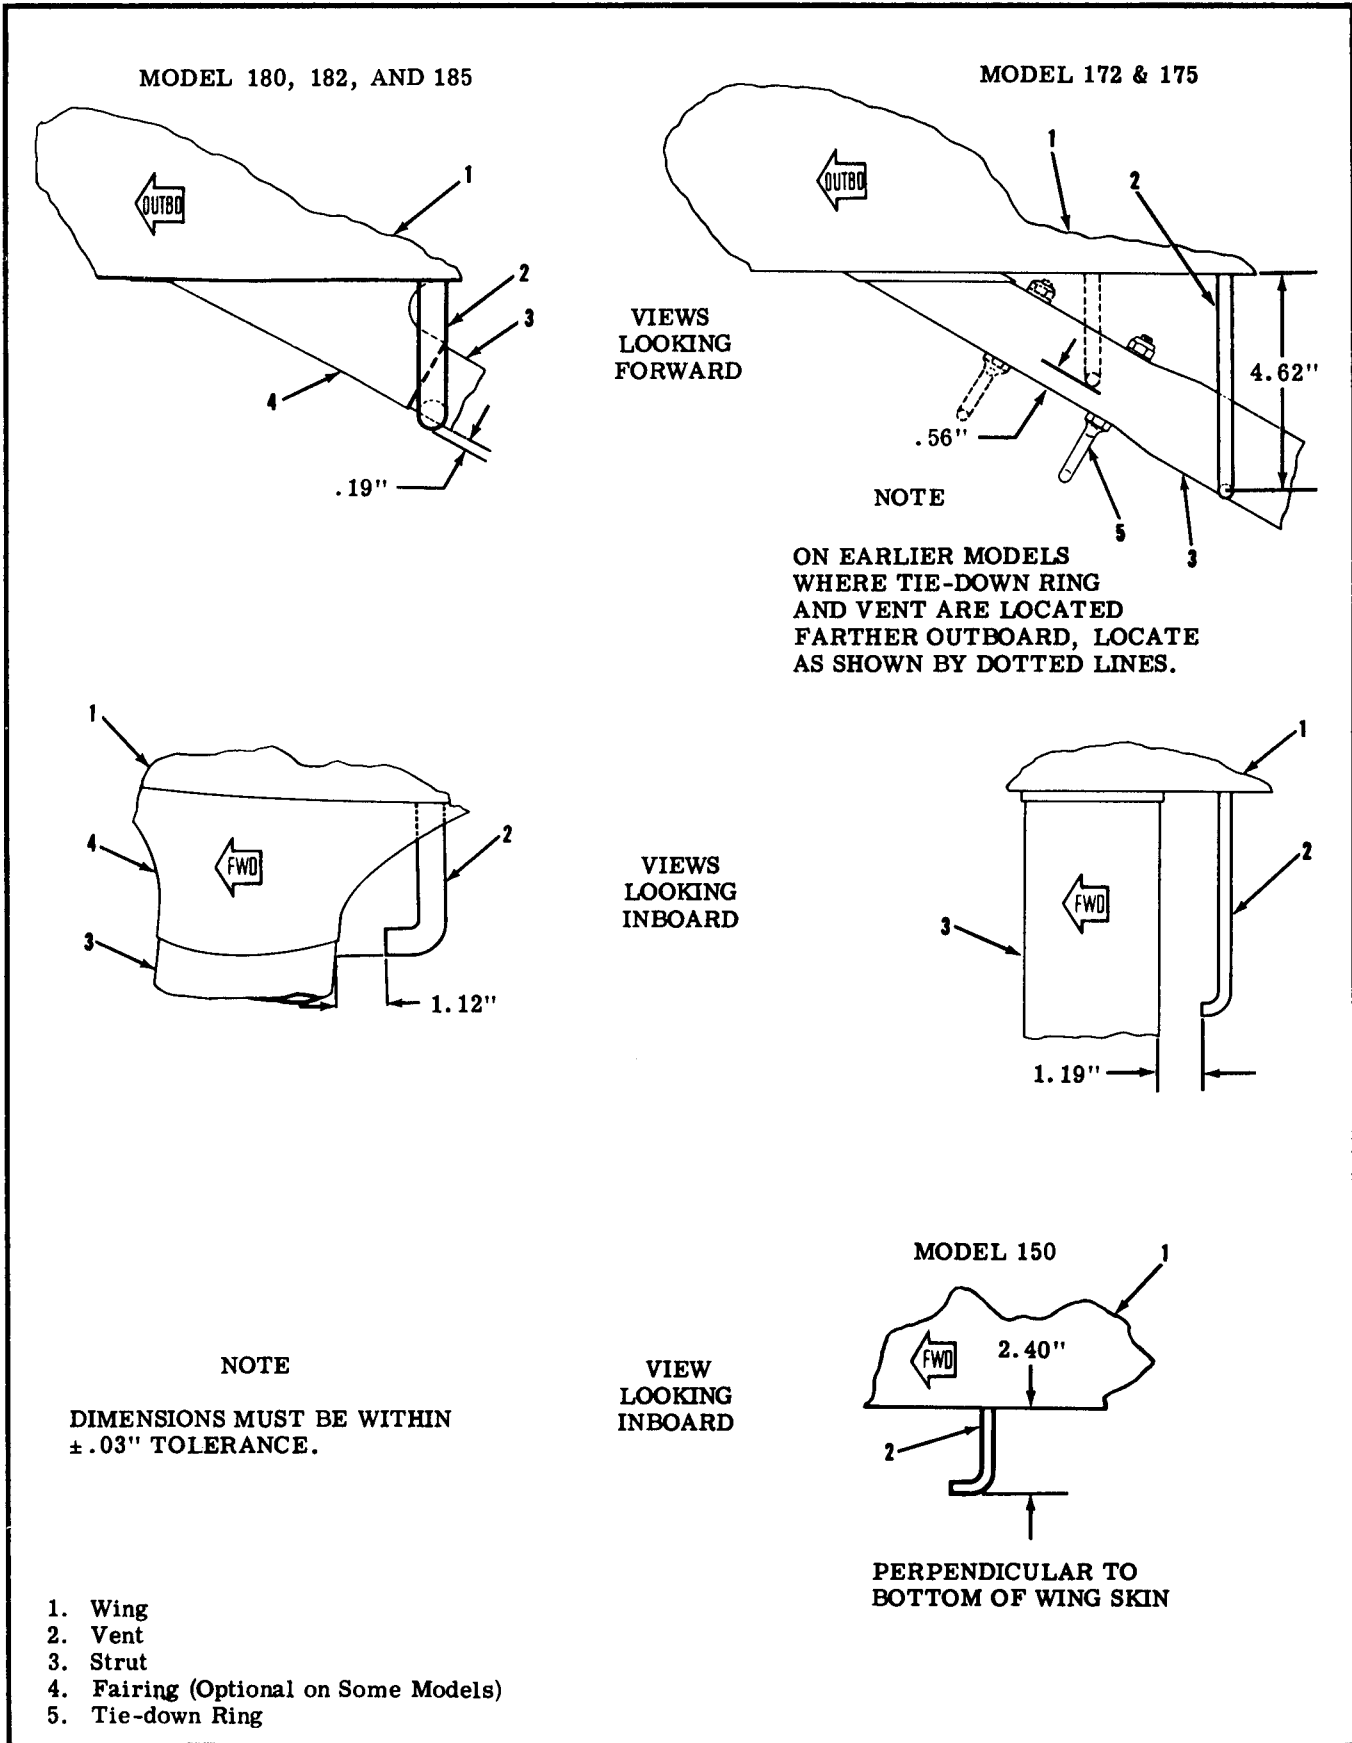

Figure 13-6. Fuel Vent Location
- c. Make certain vent is properly positioned behind the wing strut as shown in figure 13-6.